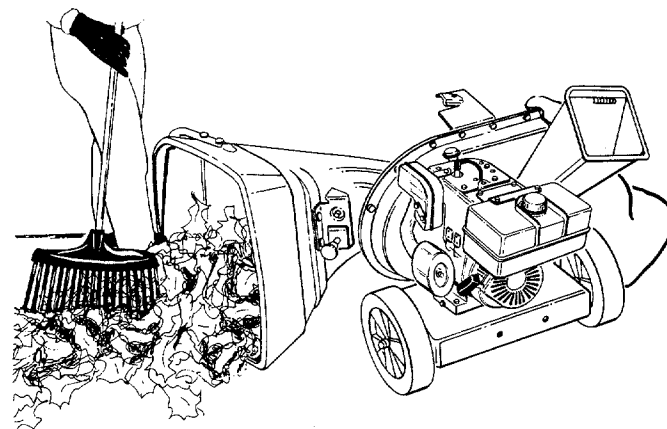

FIGURE 6.
2. Leaves and small twigs can be raked into the shredder when the hopper assembly is lowered to the ground. See figure 6.